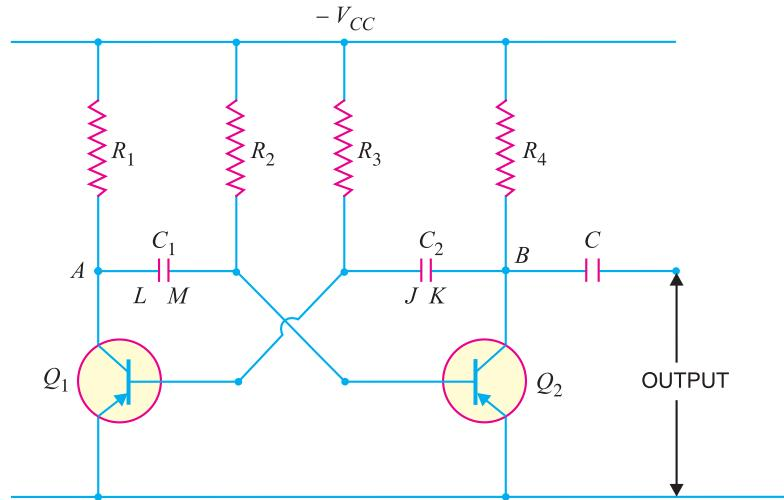

Fig. 18.13
**Circuit details.** Fig. 18.13 shows the circuit of a typical transistor astable multivibrator using two identical transistors  $Q_1$  and  $Q_2$ . The circuit essentially consists of two symmetrical  $CE$  amplifier stages, each providing a feedback to the other. Thus collector loads of the two stages are equal i.e.  $R_1 = R_4$  and the biasing resistors are also equal i.e.  $R_2 = R_3$ . The output of transistor  $Q_1$  is coupled to the input of  $Q_2$  through  $C_1$  while the output of  $Q_2$  is fed to the input of  $Q_1$  through  $C_2$ . The square wave output can be taken from  $Q_1$  or  $Q_2$ .
**Example 18.4.** In the astable multivibrator shown in Fig. 18.13,  $R_2 = R_3 = 10 \text{ k}\Omega$  and  $C_1 = C_2 = 0.01 \mu\text{F}$ . Determine the time period and frequency of the square wave.